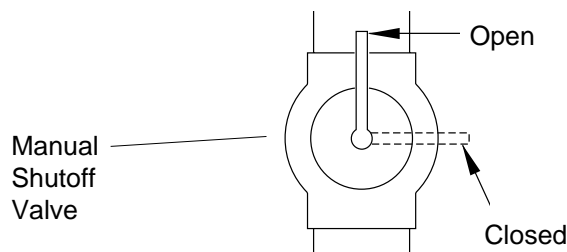

Figure 26 - Manual Shutoff Valve
1. Close manual shutoff valve (see Figure 26).
1. Open manual shutoff valve (see Figure 26).